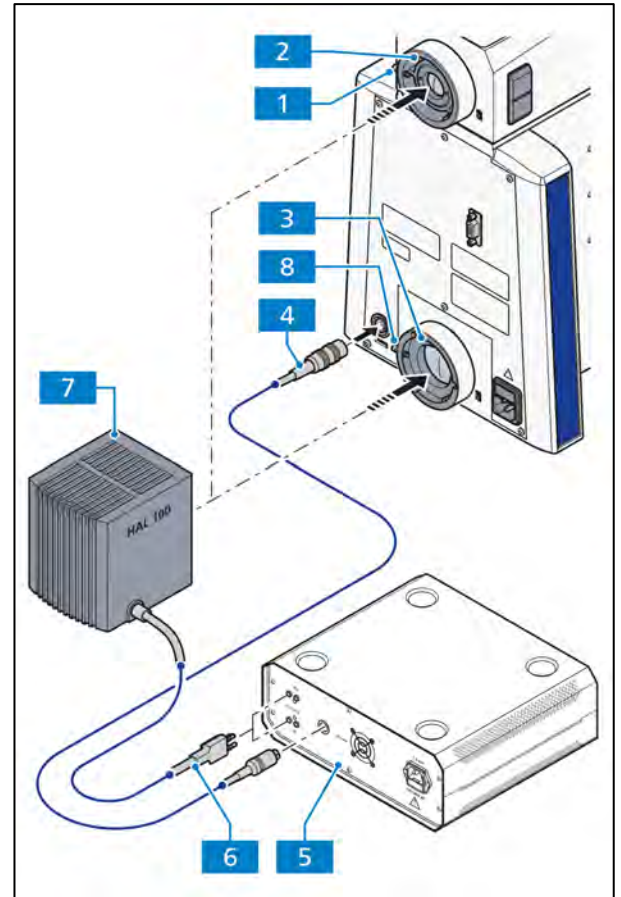
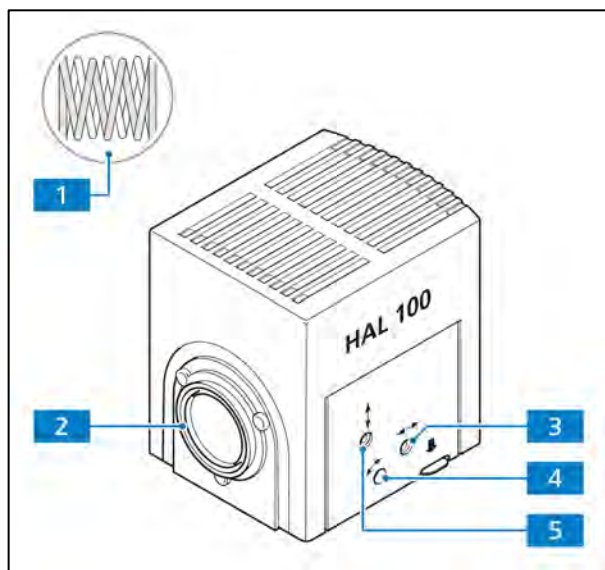

Fig. 3-29 Mounting the HAL 100
Fig. 3-30 Adjusting the HAL 100
- With the Allen wrench (AF 3) loosen the clamping screw of the respective illumination connector (lower for TL (Fig. 3-29/8), upper for RL (Fig. 3-29/1)) on the back of the stand.
- Insert the lamp case (Fig. 3-29/7) with the dovetail ring into the connector (Fig. 3-29/2 or Fig. 3-29/3). Now fixate it by tightening the clamping screw (Fig. 3-29/1 or Fig. 3-29/8) with the Allen wrench.
- Connect the 3-pin lamp plug (Fig. 3-29/6) to the respective socket on the back of the external power supply unit (suited for two lamps) (Fig. 3-29/5): plug the TL illuminator into the lower **TL** socket, plug the RL illuminator into the upper **RL** socket.
- Connect the cable (Fig. 3-29/4) for illumination intensity control (see section 3.3.2).
- After loosening the clamping screw (Fig. 3-29/1 or Fig. 3-29/8), remove the ready-to-operate halogen illuminator (Fig. 3-30/2) from the microscope stand.
- Adjust the adjustment screw (Fig. 3-30/3) using an Allen wrench (AF 3) until both images of the lamp filament appear as sharp as possible on the projection surface.
- Adjust the adjustment screws (Fig. 3-30/4 and 5) so that the lamp filament of one image exactly fills the gaps of the reflected image (Fig. 3-30/1).
- Remove the eyepiece and center the lamp filament and its reflection in the eye pupil image with the adjustment screws (Fig. 3-30/4 and 5).
- Optimize the even illumination of the pupil image with the adjustment screws (Fig. 3-30/3).